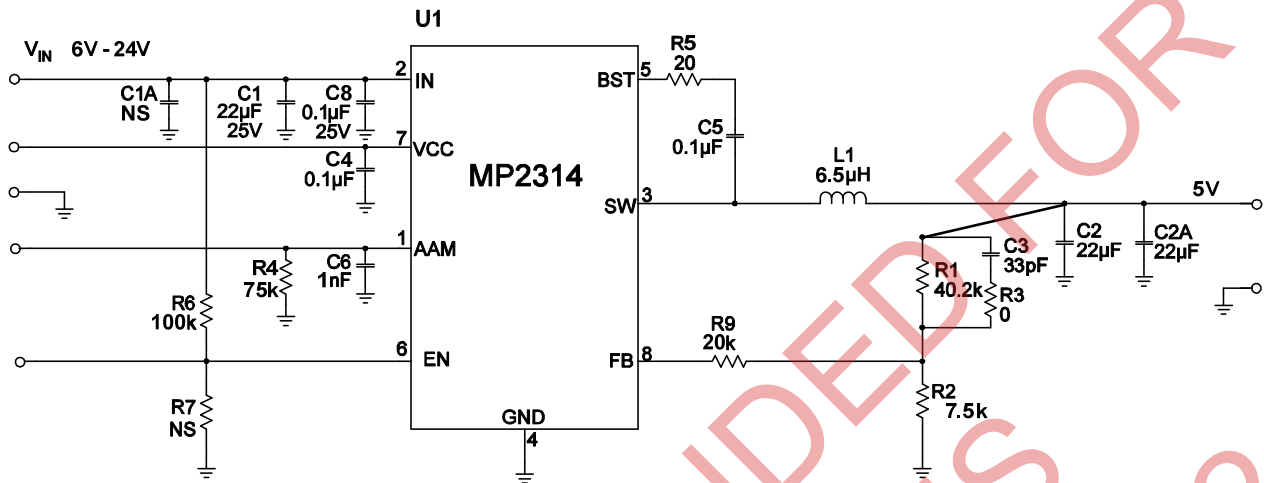

Figure 9:  $V_o=5V, I_o=2A$
- 7) The recommended layout is based on the Figure 9 Typical Application circuit on the next page.
The detailed application schematics are shown in Figures 9 through 14. The typical performance and circuit waveforms have been shown in the Typical Performance Characteristics section. For more device applications, please refer to the related Evaluation Board Datasheets.